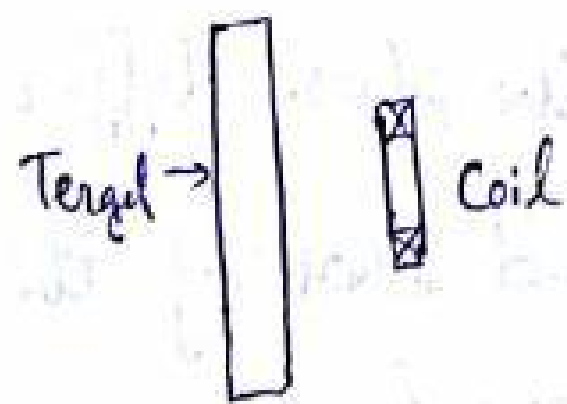

Fig 1: Target perpendicular to the coil
i) Target placed perpendicularly to the axis of the coil (Fig 1)